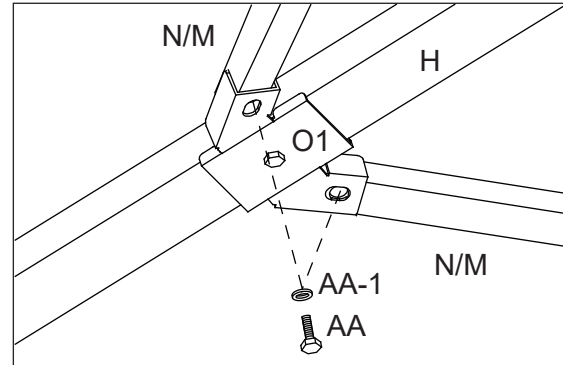

Figure 14-4
14.4: Attach the Horizontal Main Roof Supports (N, M) to the Connector (O1) using Bolts (AA) and Steel washer (AA-1). See Figure 14-4.